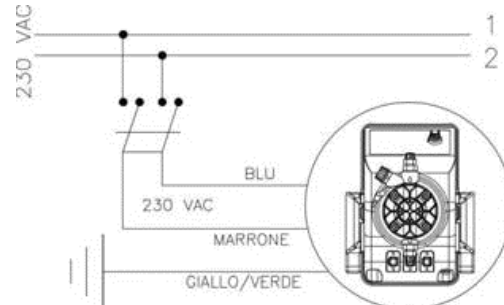

Fig. 4
1. ***Disconnect the pins from the mains or by means of a two poles switch with 3 mm minimum distance between the contacts. (Fig. 4).***
1. Disconnect the pins from the mains or by means of a two poles switch with 3 mm minimum distance between the contacts. (Fig. 4).
- b. - Carefully observe the regulations in force in the various countries as regards electrical installations (Fig.4). When the supply cable is devoid of a plug, the equipment should be connected to the supply mains by means of a single-pole circuit breaker having a minimum distance of 3 mm between the contacts. Before accessing any of the electrical parts, make sure that all the supply circuits are open.